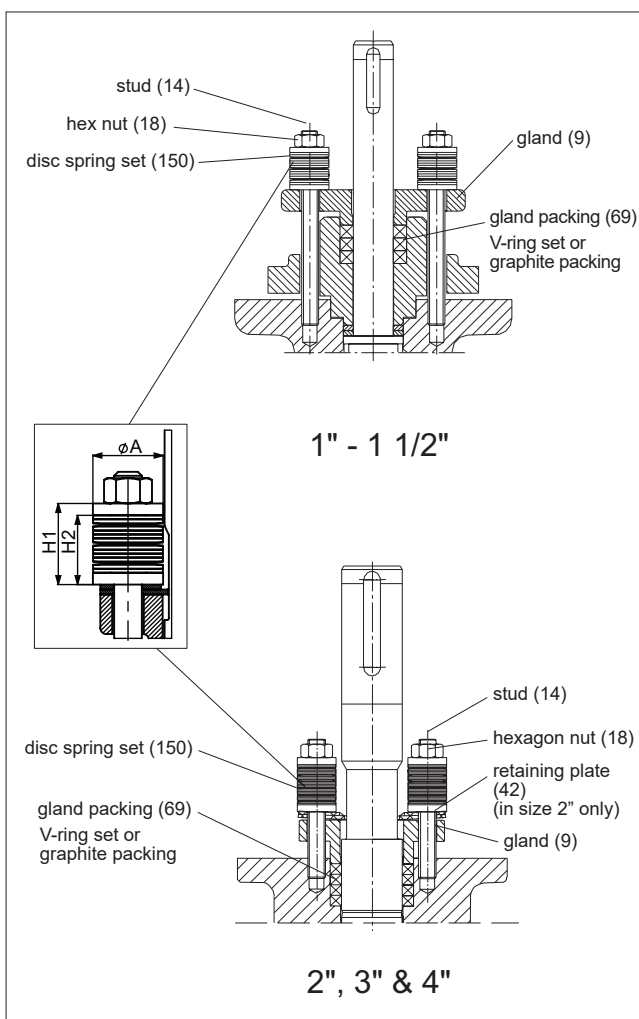

Fig. 11 Gland packing
- Remove the key (10).
- Remove the hexagon nuts (18), disc spring sets (150), one stud (14) and retainer plates (42, size 2" only) and gland (9).
- Remove the packing rings (69) from around the shaft using a knife or other pointed instrument. Make sure that there is no damage to the shaft or the counterbore. Please note that the thrust ring (67) may come off as you remove the packing. It should be placed back in its position before installing the new packing.
- Place the new packing rings (69) over the shaft (5). The gland (9) may be used for pushing the rings into the counterbore. Do not damage packing rings in the shaft keyway. See Fig. 11. Screw down the removed stud.
- Remove the gland nuts and one stud, mount the retainer plates (42, size 2" only) and the removed stud and place the disc spring sets (150) on the gland studs. Tighten the nuts (18) so that the disc springs are compressed to the height H2, see Table 1 and 2. Lock the nuts with locking compound e.g. Loctite 221. See Fig. 11.